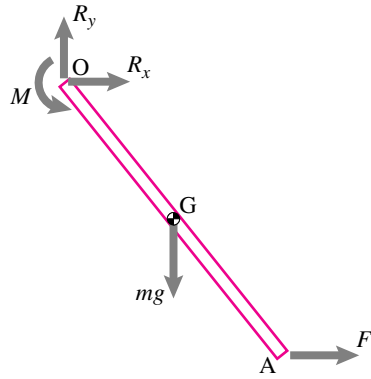

Figure 16.73: Free-body diagram of the bar with applied torque $\vec{M}$ and force $\vec{F}$
1. A free-body diagram of the bar is shown in Fig. 16.73. Once again, we can use $\sum \vec{M}_O = \dot{\vec{H}}_O$ to derive the equation of motion as in Sample 16.20. We calculated $\sum \vec{M}_O$ and $\dot{\vec{H}}_O$ in Sample 16.20. Calculation of $\dot{\vec{H}}_O$ remains the same in the present problem. We only need to recalculate $\sum \vec{M}_O$.